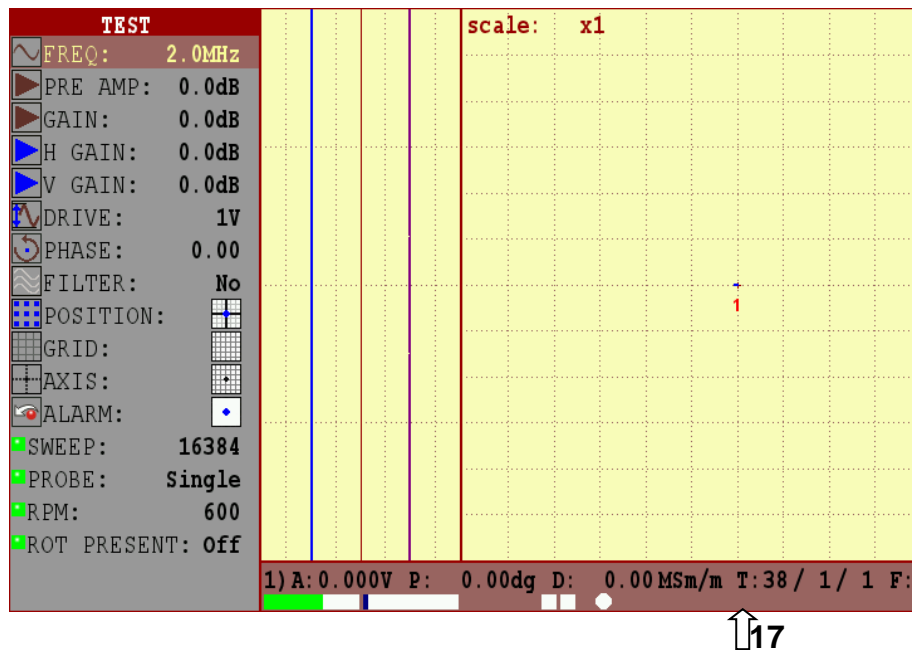

FIGURE 1 - Settings of «TEST» menu
3.2.3 FIGURE 1).
3.2.6 FIGURE 1) in a range specified in the registration certificate for the ECP.
3.2.8 FIGURE 1) not more than 2 V, if the object of testing has no paint coating. If the object of testing has heavy paint coating, then it is allowed to set the parameter of the ECP drive ( DRIVE) more than 2 V, but this increasing should not lead to the overshoot of the input circuit occupancy (over-occupancy).